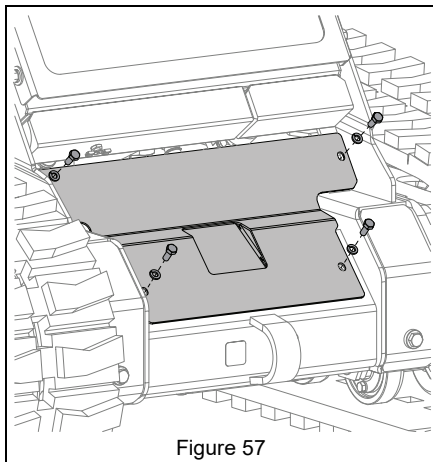

Figure 57
6. Reinstall battery access panel using hardware removed earlier. See Figure 57.